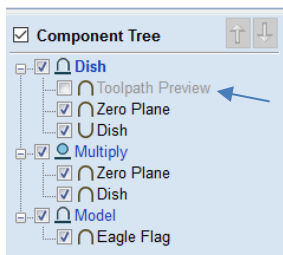

Fig. 20
22. Click on the “Modeling” Tab and turn off the “Toolpath Preview” component. Turn on all your “Components” in the “Component Tree” (Fig. 20).